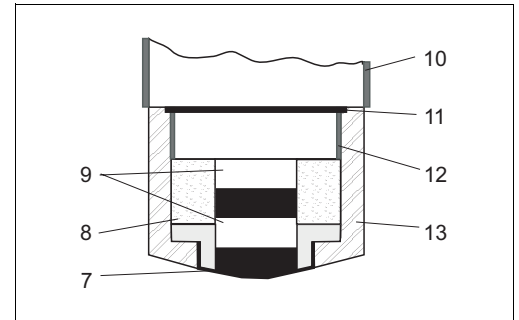
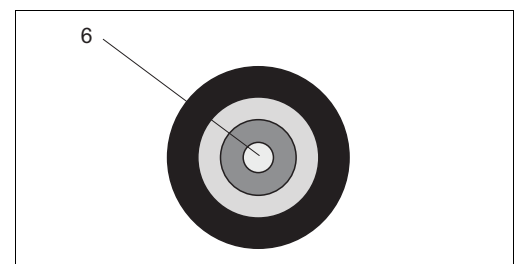

Fig. 18: Sensor head, cutaway drawing
Fig. 19: Sensor head, top view
- Sensor head with Gold cathode and anode (Fig. 18, Fig. 19)
- Membrane cap with electrolyte filling (Fig. 18, pos. 13 and 8)